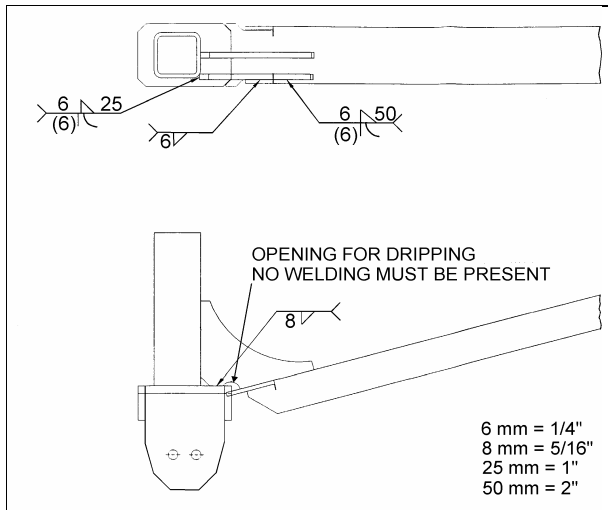

FIGURE 4
4. Position the new reinforcement (#171738), set the welding machine according to the parameters already mentioned then weld referring to figures 4 and 5.